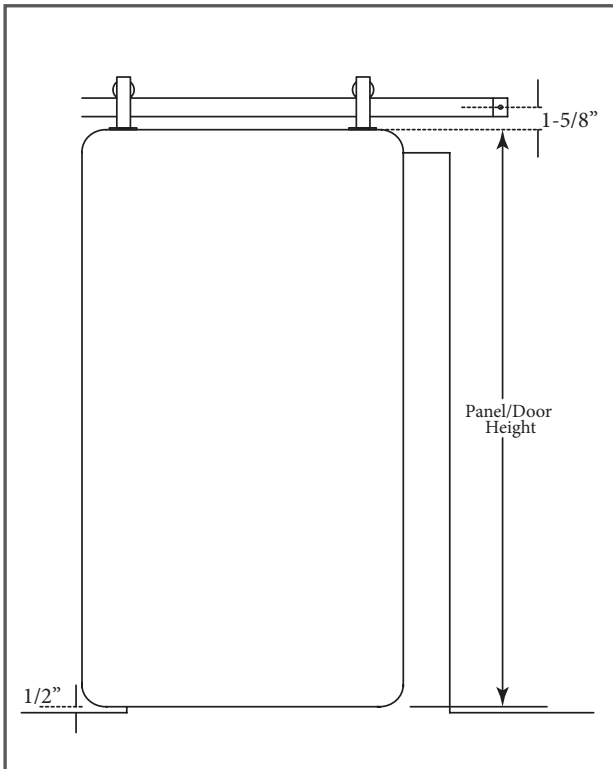

Figure 1
1. To determine where the track should be installed, first measure the height of the panel or door, then add 2-1/8" to the panel or door length. 1/2" will be for the clearance between the bottom edge of the panel or door and the sill or floor. 1-5/8" will be from the top edge of the window or door to the center of the track. (Figure 1).